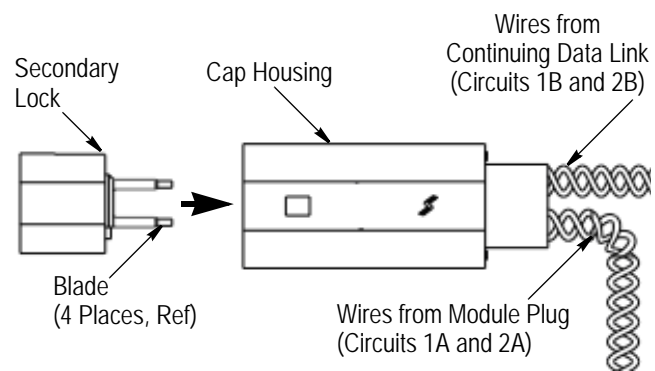

Figure 2
1. Insert the two contacts of the module plug into Circuits 1A and 2A of the cap housing and the two contacts of the continuing data link into Circuits 1B and 2B of the cap housing. Refer to Figure 2.